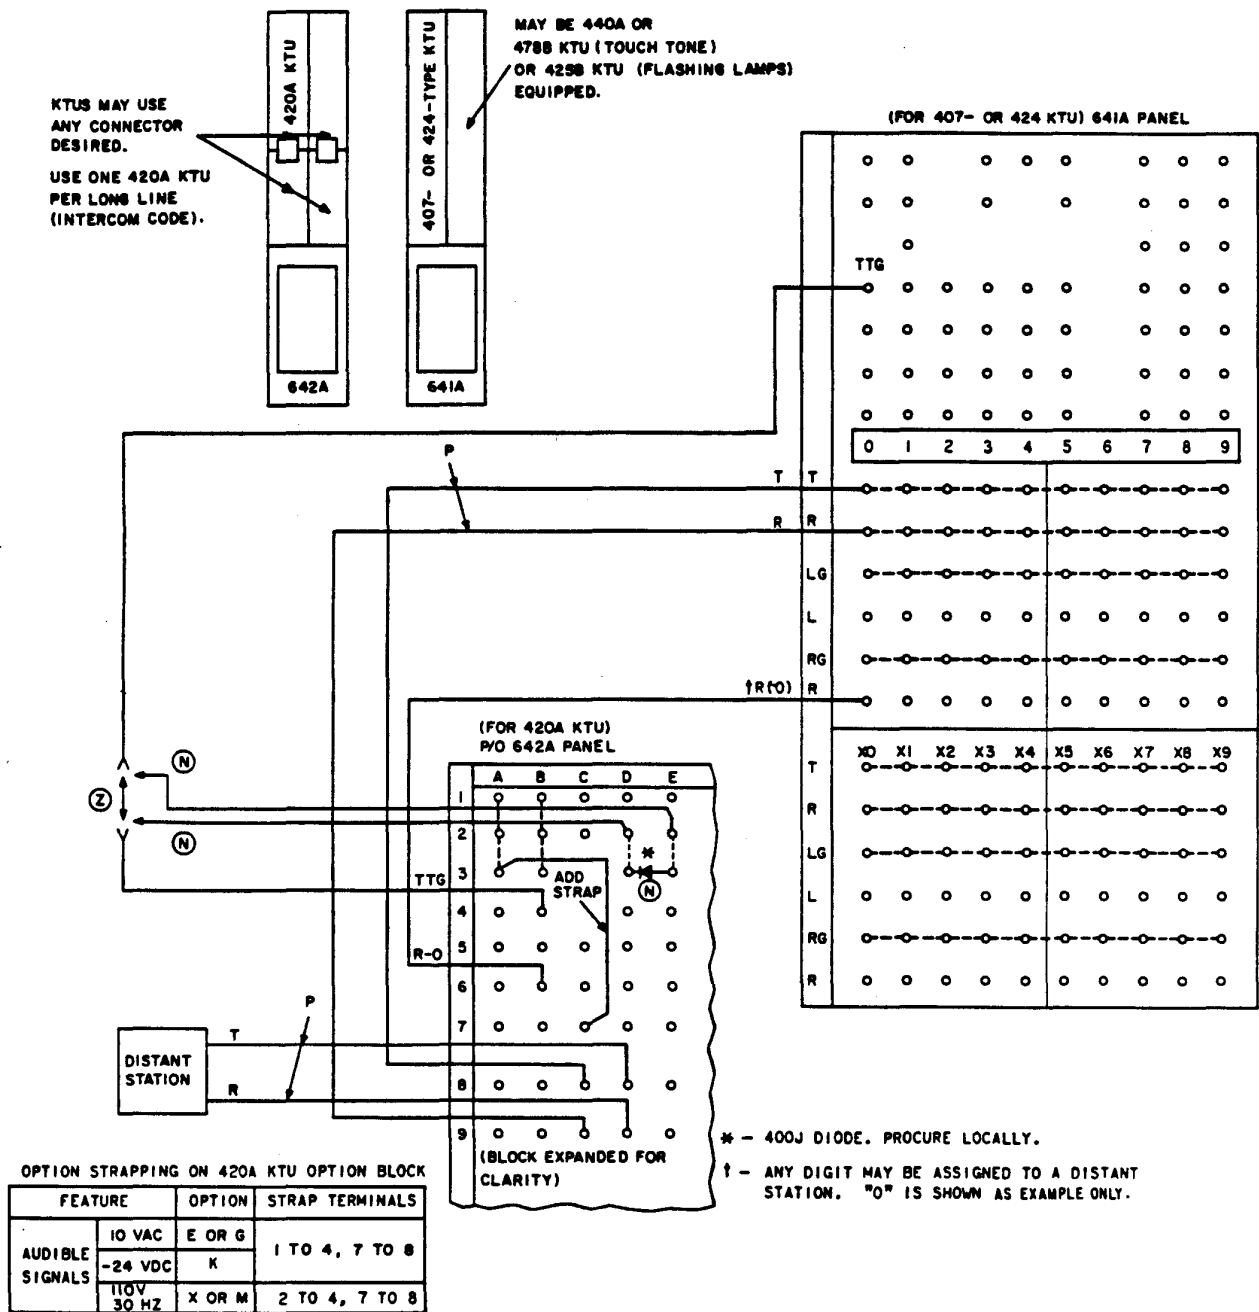

Fig. 38—Long Line Circuit (420A KTU) Option for Basic or Deluxe Dial Intercom
**K. 420A KTU—Long Line Circuit (Fig. 38)**